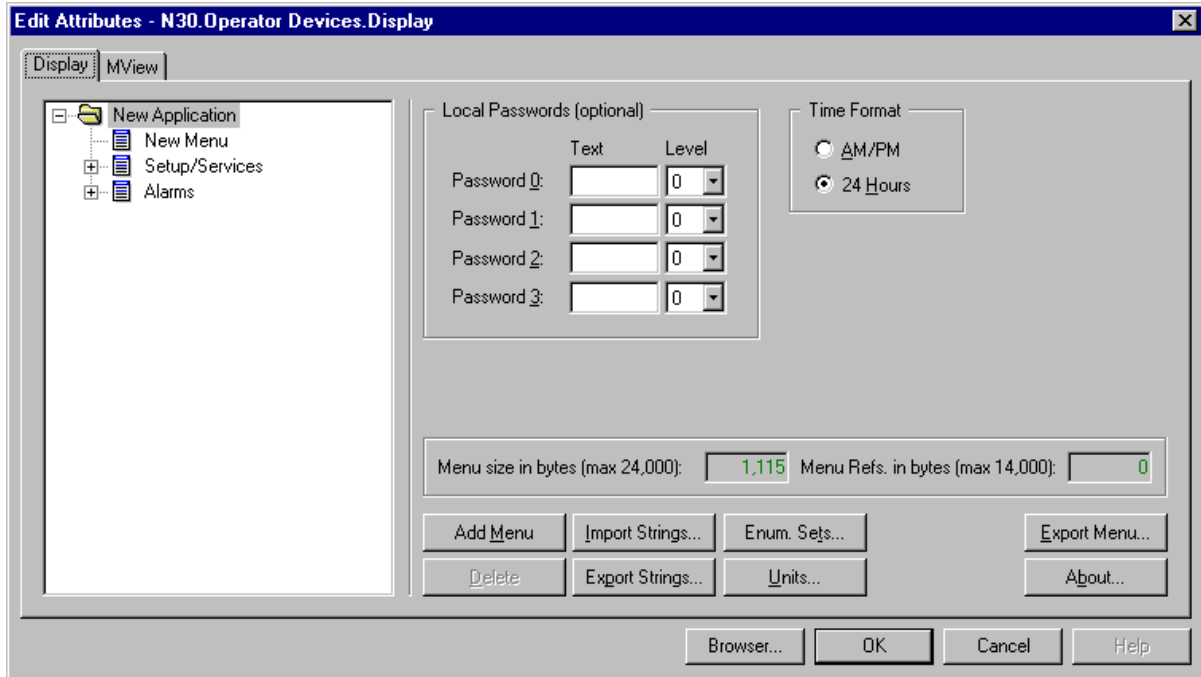

Figure 7-3: New Display Object
5. The drop-down list in the Select Language screen contains a list of each language for which M-Display finds a fixed enumeration set resource file. Select a language from the list and click OK. The M-Display control appears (Figure 7-3).
6. With the application level selected (Figure 7-3), define Application attributes as described in Table 7-3.
11. Click the Display tab. The M-Display screen appears (Figure 7-3).